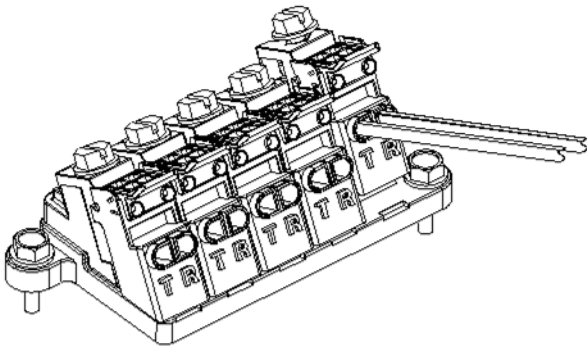

Figure 4
3. Raise driver bolt mechanism to full up position by turning the driver bolt counter-clockwise. Insert wires, confirm wires are fully inserted (Figure 4). Lower driver bolt to the down position by turning clockwise.